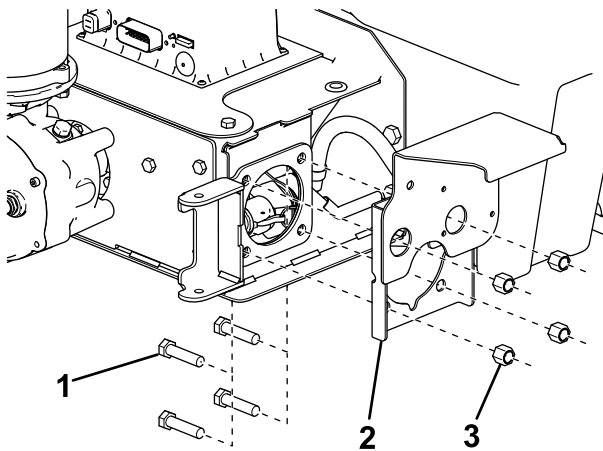

Figure 25
3. Secure the pump bracket to the auger or pintle chain assembly using 4 bolts (1/2 inch) and nuts (Figure 25).